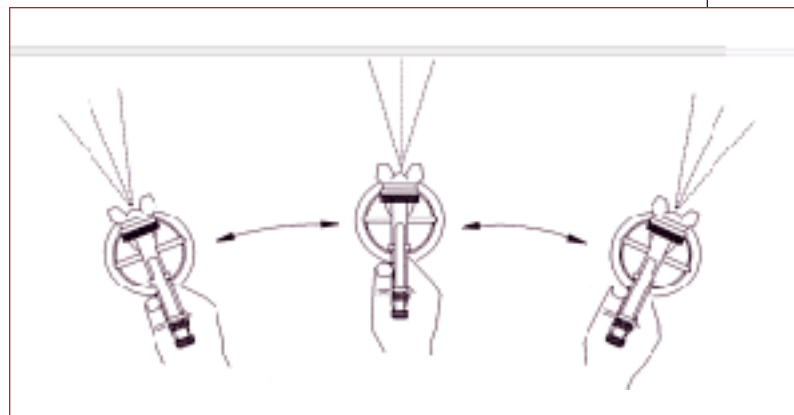

Figure 6: Improper Spray Technique
**E.** When spraying, always hold the gun perpendicular to the surface being sprayed, using parallel strokes. Never arc the spray gun (Figure 6), with two notable exceptions: